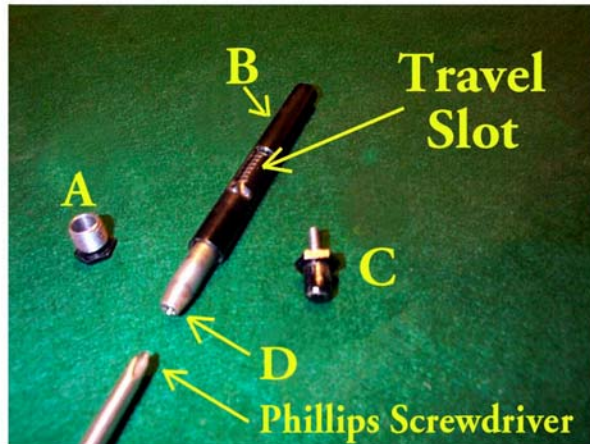

Figure 4
Tip: DON'T install it upside down! Now, replace the two screws shown in Figure 1, screw them into bracket 2 again. Disassemble the assembly (Fig. 4) leaving the shot bolt (Fig 4-D) in place.
Insert your Phillips screwdriver into the the end of the shot bolt (Fig 4-D), push the shot bolt all the way in and twist it slightly to the right. I will stay in place there. The bolt is now retracted and ready to install.
File or grind off any burrs and drop in the Body Assembly (Fig 4-B) Keep the small hole to the left side of the bike. **TIP:** Release the shot bolt to help align. Screw Ball Stud (Fig 4-C) through the bracket (1) and the 10mm nut still in place here (2), then into the Body Assembly (Fig 4-B) Again, having the shot bolt “released” will maintain your alignment. Finger tight for now is fine.
On the **RIGHT SIDE** of bike, screw the Guide Stud (1) - refer to (Fig4-A) through the drilled hole (2) and into Body assembly. **Tip:** “Pop” out the shot bolt, it’ll be easier to align. **Make sure travel slot (3) - (refer to Fig 4) is “up”.**
To remove the seat from now on, pop the pin out of the air cylinder, stick your Phillips screwdriver into the hole (Fig 8-1), push it all the way in and turn the shot bolt slightly to the right until it locks. That’s it! Lift off the seat and pocket that \$100. that shop would have charged. **Make SURE the shot bolt (Fig 4-D) is engaged in the seat hole (Fig 3-1) when installed!**